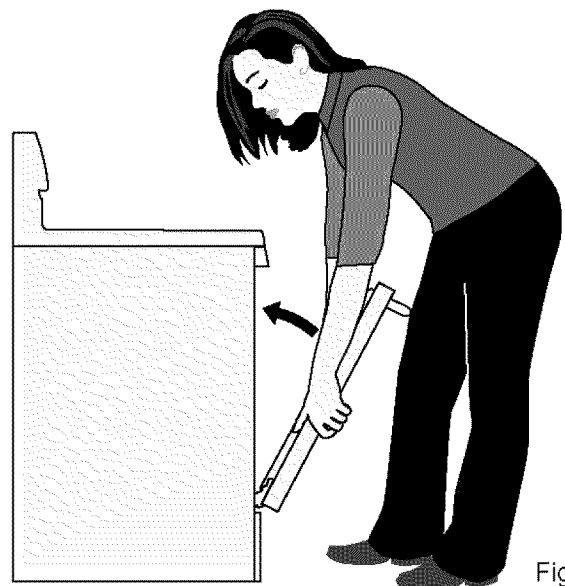

Fig. 3
5. Carefully lift door away evenly, slightly up and out until both hinge arms are clear of the hinge slots in the oven frame-*Fig. 3*. After door has been removed, be sure to lay the door flat with the inside of the door downward (never rest the oven door with any weight on the door handle).